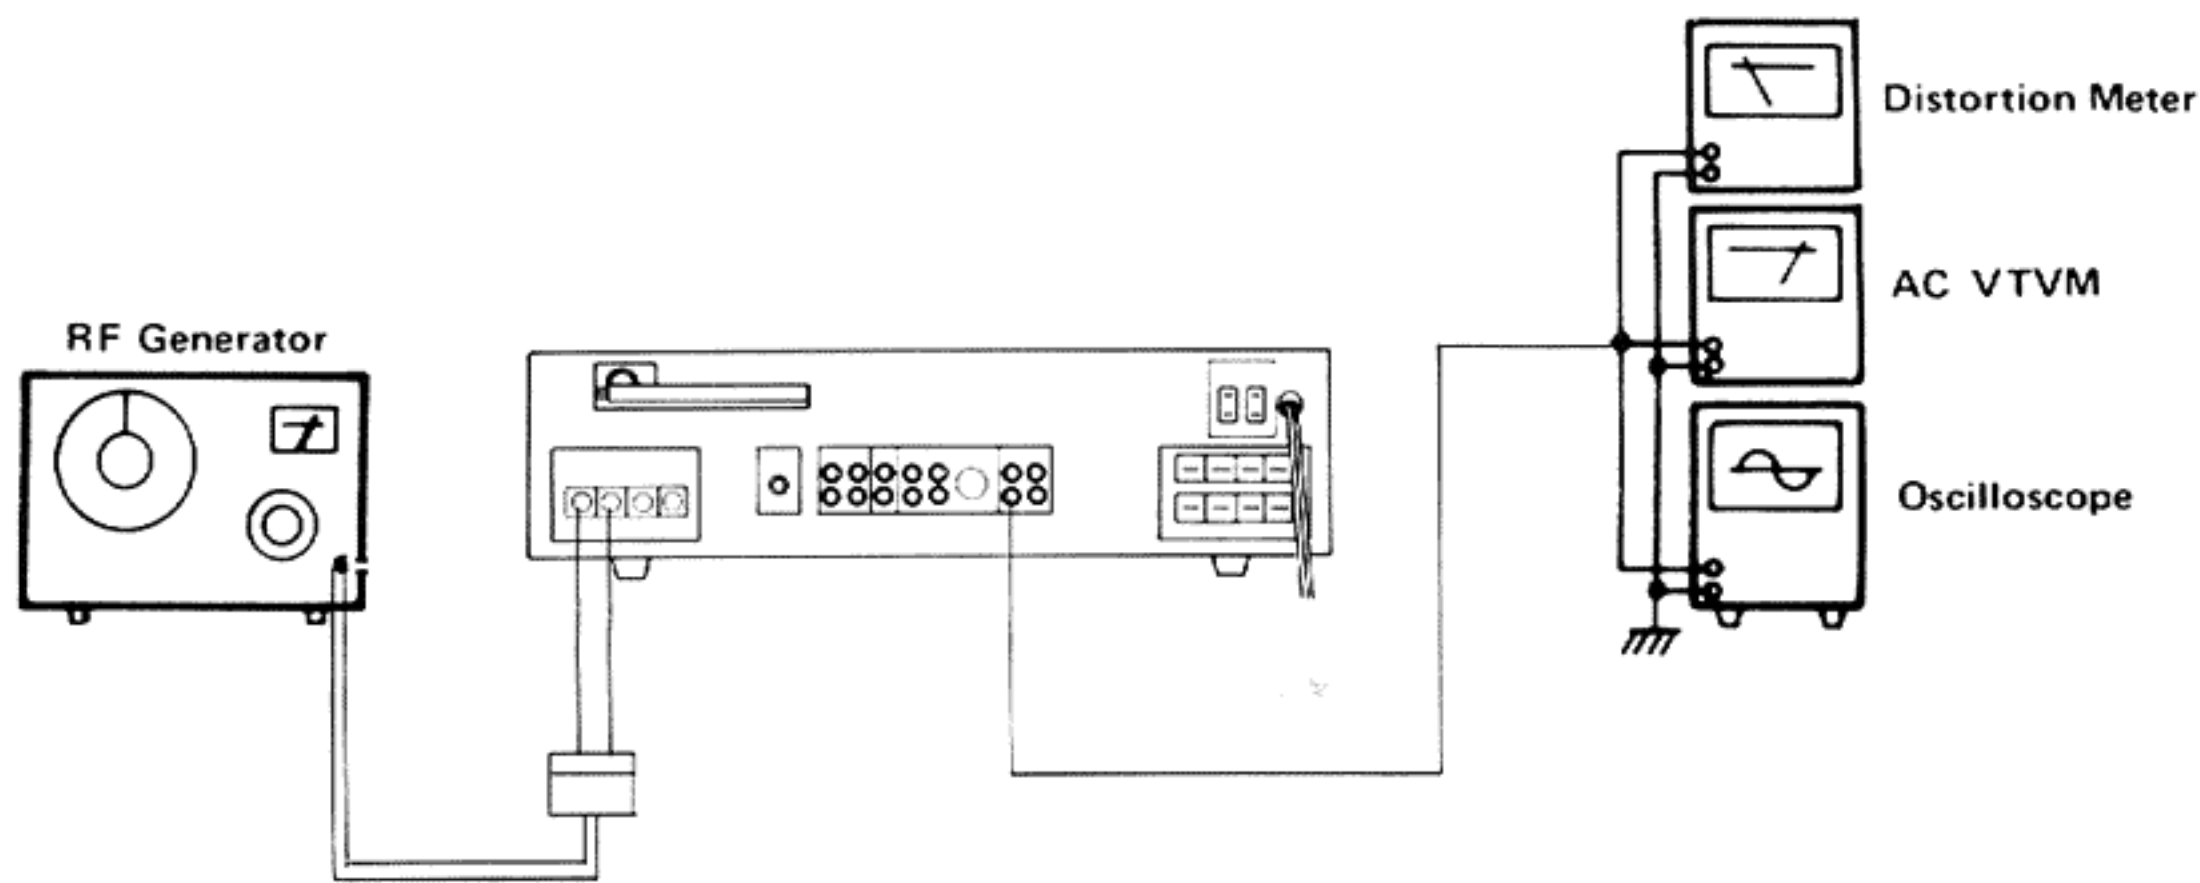

Fig. 18
2. Connect an oscilloscope, distortion meter and VTVM to the Rec. Out on the rear panel. See Fig. 18.